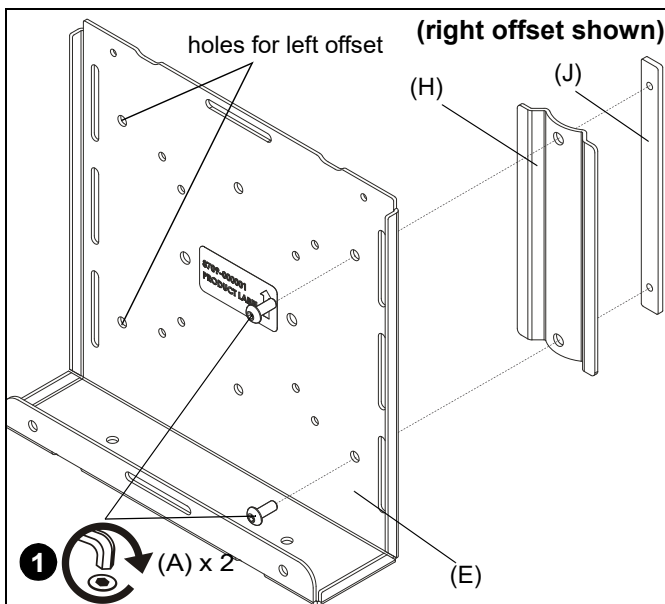

Figure 2
NOTE: Thin client bracket (E) may be offset to either side by using side holes. (See Figure 2)